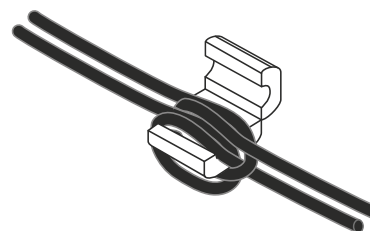

FIGURE 4: Ferrite core installation on I/O wirings.
- ▶ set the cabling for RF noise rejection: shielded or twisted cables are advisable configuration (ref. FIGURE 4);